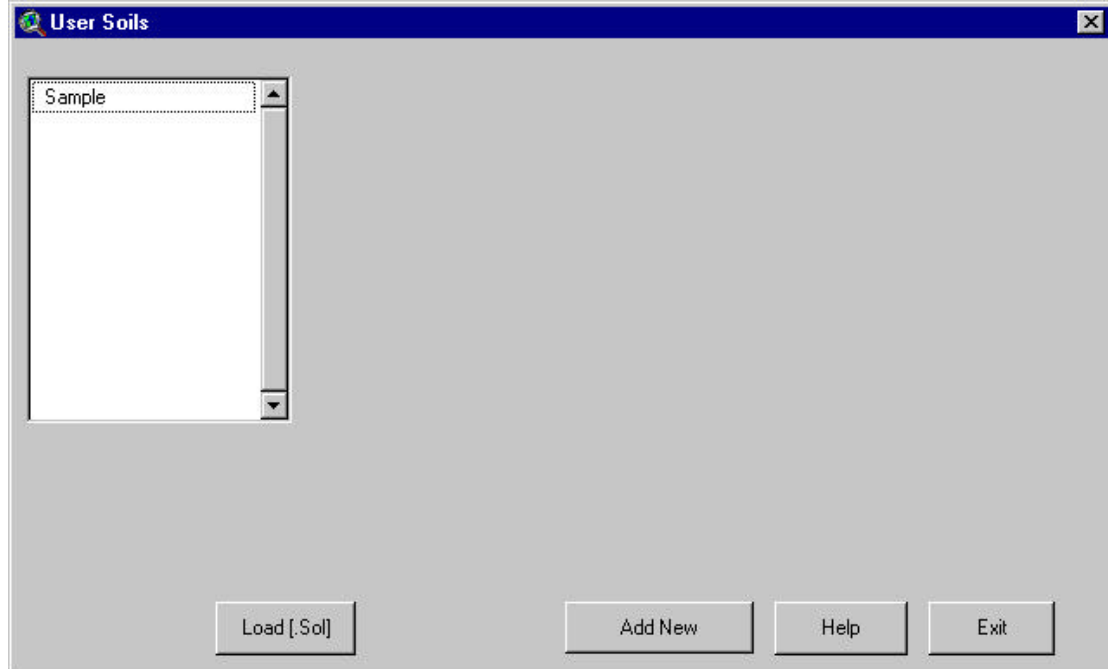

Figure 14.3
2. The User Soils dialog box will be displayed (Figure 14.3)